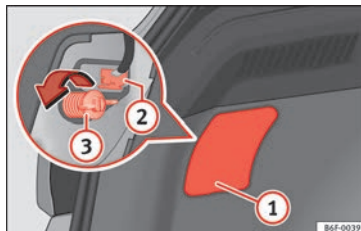
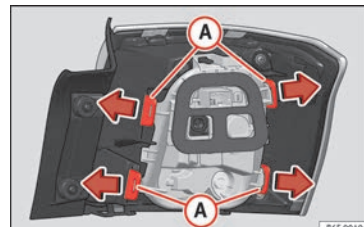

Fig. 115 Luggage compartment: access to the bolt securing the tail light unit.
Fig. 116 Retaining tabs on reverse side of tail light.
3. Remove the lid, levering the flat side of a screwdriver into the recess » Fig. 115 ①.
4. Remove the bulb connector ②.
5. Unscrew the light securing bolt ③ by hand or using a screwdriver.
7. Remove the bulb holder unlocking the retaining tabs » Fig. 116 A.